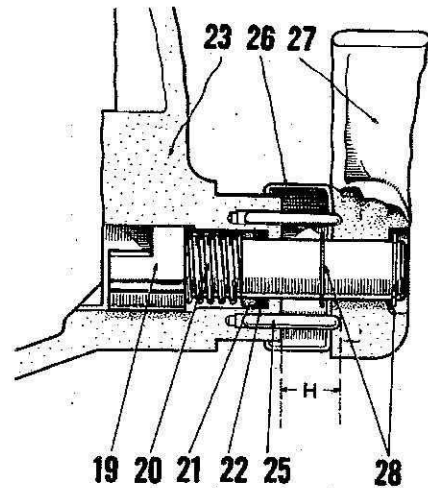

Fig. 208—Cross-sectional view of lift linkage latch located in ram cylinder cover (23). Refer also to Fig. 207.
Fig. 207—Exploded view of typical rockshaft cylinder and rockshaft assembly. Connector (1A) is used on model 1200, connector (1) on all other models. Refer to Fig. 208 for cross-sectional view of rockshaft latch assembly. No attempt should be made to remove or reposition the rockshaft lift arms. Rockshaft ram cylinder arm (14) is renewable by splitting old arm, then pressing arm from shaft. Heat new arm to expand to it, press into position and allow to shrink fit to shaft.
Refer to Fig. 208 for cross-sectional view showing lift linkage latch assembly. During normal operation of hydraulic system, the latch (19) is withdrawn by lever (27) riding on ends of the steel pins (25). When it is desired to latch lift linkage in raised position, turn lever (27) so that pins enter recesses in lever allowing spring (20) to push latch forward to engage ram cylinder arm. Linkage can be disassembled after removing ram cylinder cover (23) by holding latch rearward against spring pressure while removing the snap rings (28). A guide screw (24—Fig. 207) engages slot in latch plunger (19) to keep it from turning. The pins (25) are actually needle bearing rollers; thus if broken, are too hard to be drilled out. Ram cylinder cover can be salvaged if pin is broken by drilling new pin holes offset slightly from the original holes.